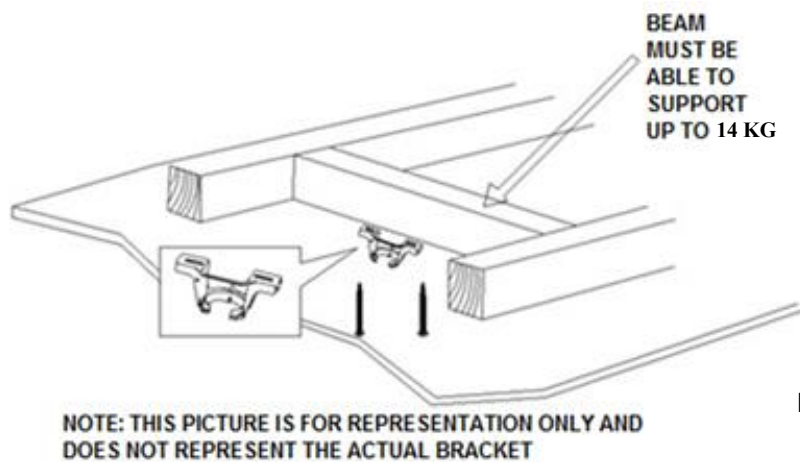

Fig. 2
- Install the hanging bracket to the ceiling joist or structure that is capable of carrying a load of at least 14 kg, with four long screws provided. Ensure at least 30mm of the screw is threaded into the support. (Fig. 2)